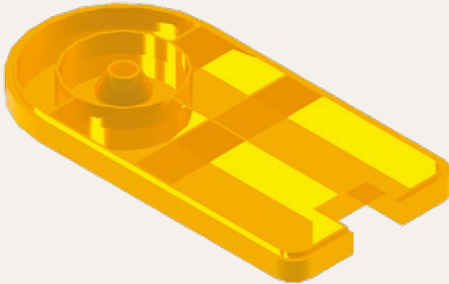
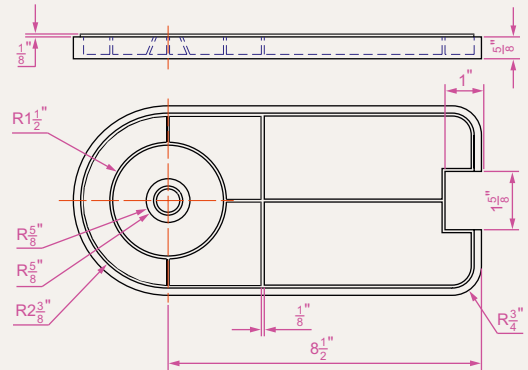

Fig. 15.54 Exercise 2
Fig. 15.55 Exercise 2 – two-view projection
2. Fig. 15.54 is a rendering of a drip tray. Working to the sizes given in Fig. 15.55, construct a 3D model drawing of the tray. Add lighting and a suitable material, place the model in an isometric view and render.